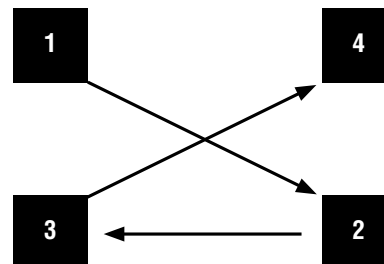

Figure 1: Flange bolt tightening sequence
3. When installing flange bolts, always tighten bolts in a sequential pattern, shown in Fig. 1. Bolts should be tightened to the appropriate torque as specified by SAE for the bolting material used.